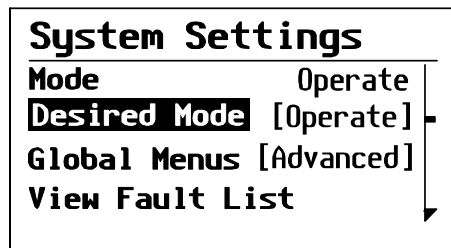

Figure 11 System Settings Menu
3. On the System Settings menu, with Desired Mode highlighted, as shown in Figure 11, press Enter.